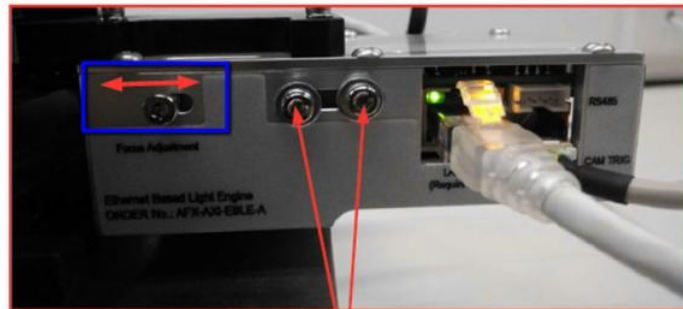
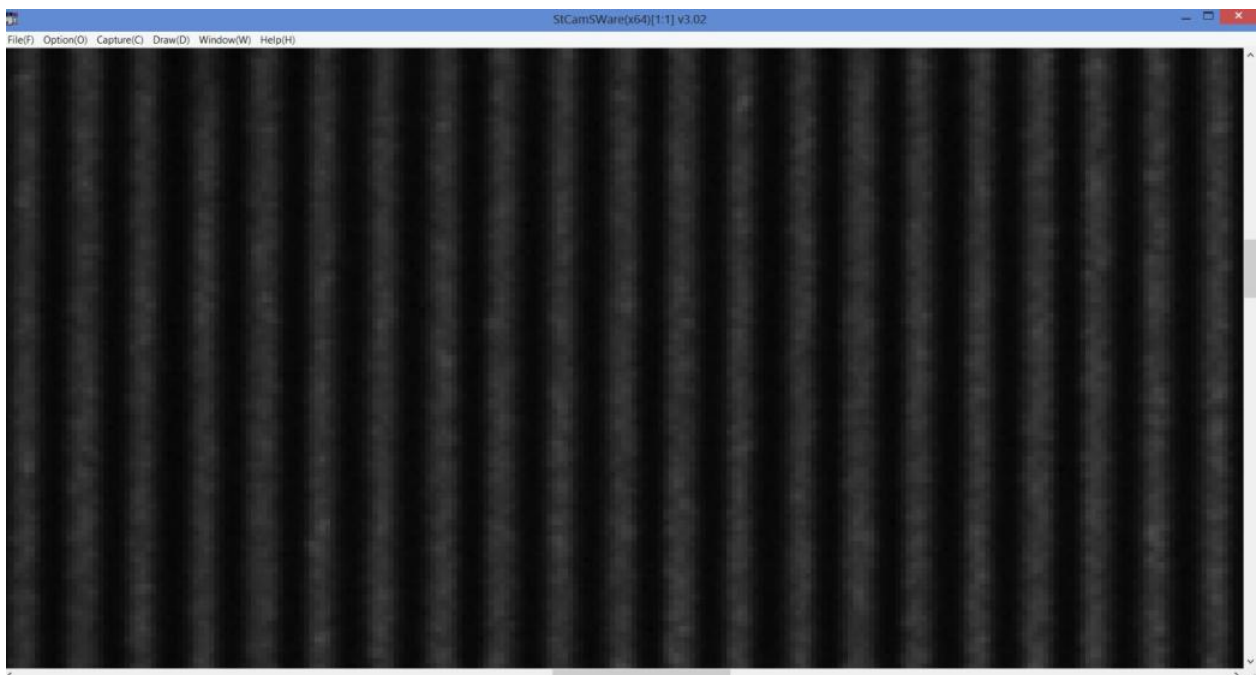

Figure 49 Clear Fringe Pattern
Figure 51 Image A
49. Adjust the Focus Adjustment until “Clear Fringe Pattern” is obtained as Figure 49. Then, Tighten 2 x Screws.
51. Verify the Fringe pattern image sharpness are approximately similar to Image A (Figure 51)
- b. If Image B is obtained during the verification, please re-adjust the “Focus adjustment” of projector by refer to “Size 8” at Stcamsware GUI until Image A (Figure 51) is obtained. Once completed, please re-verify the sharpness image at “Size 1” at Stcamsware GUI as Figure 49.